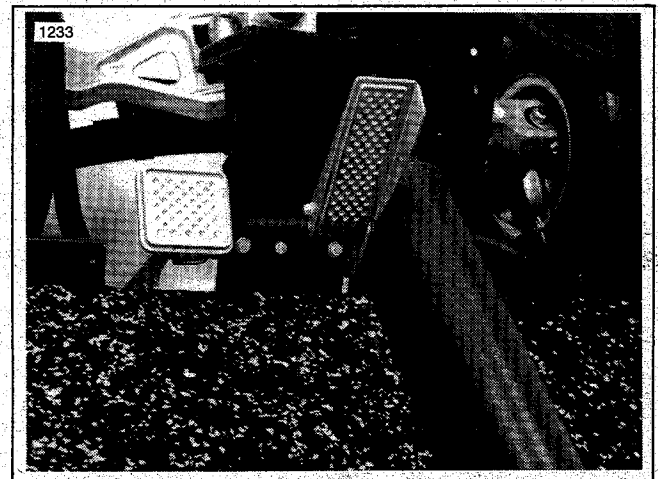
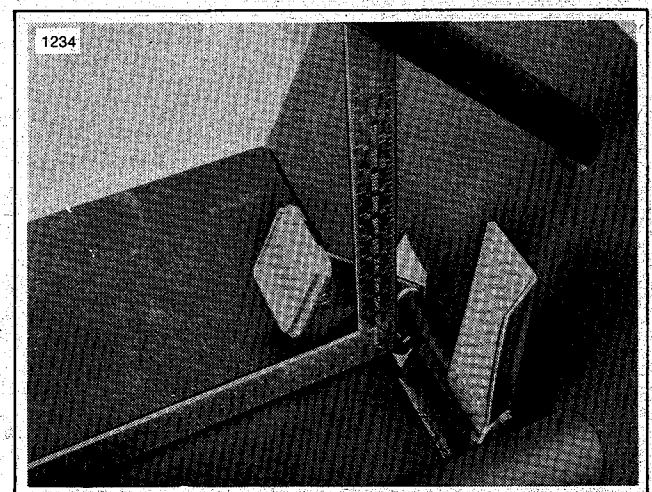

Figure 2-7. Accelerator Bracket Bolts
Figure 2-8. Pawl Perpendicular to Floorboard
1. Slightly loosen the three accelerator pedal bracket bolts (Figure 2-7).
2. Hold pawl perpendicular to floorboard with carpenter's square (Figure 2-8). Depress brake pedal and adjust the accelerator bracket until pawl engages ratchet notch about half way. Snug the three accelerator bracket bolts (Figure 2-7).
4. Tighten accelerator bracket bolts (Figure 2-7) to 16-19 ft-lbs torque.